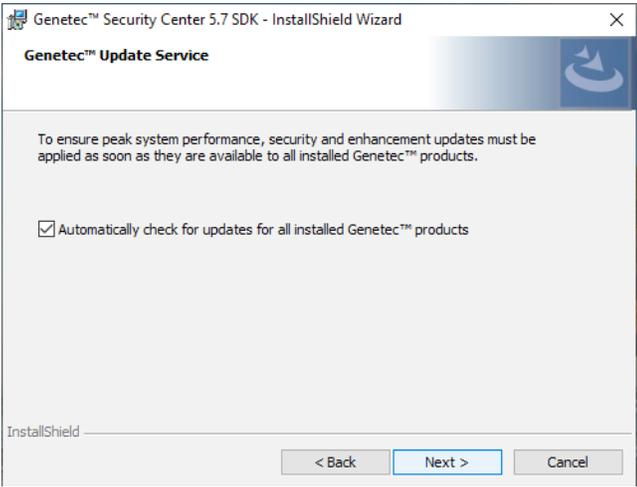

Figure 16
18. Ensure that "Automatically check for updates for all installed Genetec products" is selected, then click Next (Figure 16).